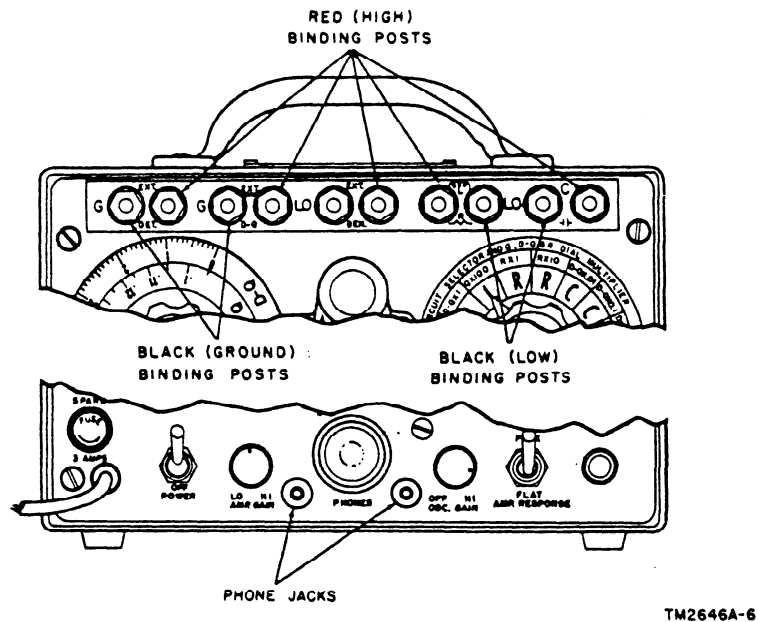
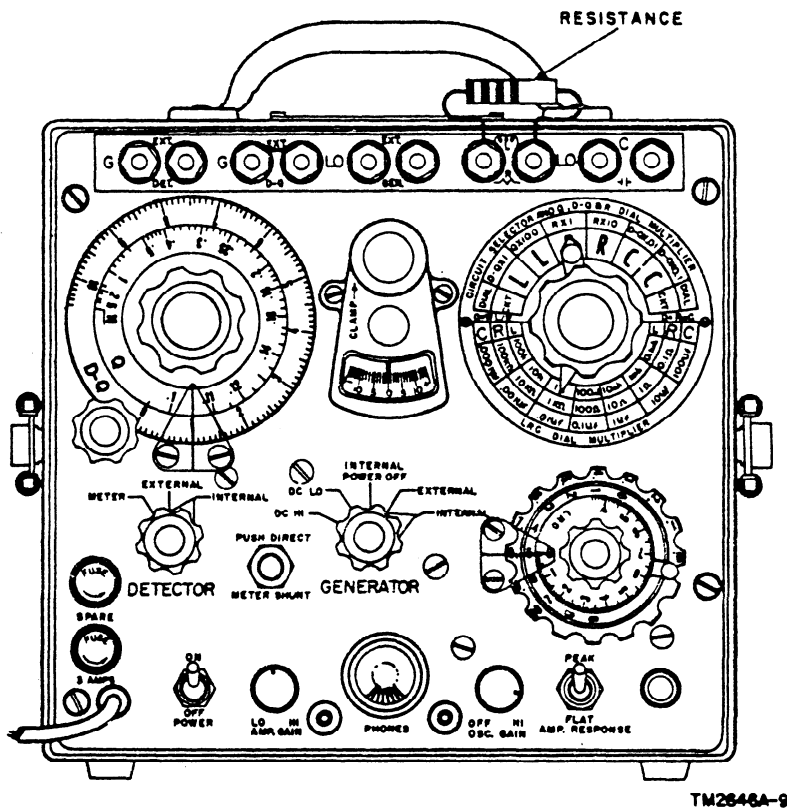

Figure 5. Bridge, showing binding posts and jacks.
Figure 8. Bridge controls settings for measurement of ac resistance.
(fig. 5)
- (1) When the headset is used, turn the DETECTOR switch to the INTERNAL position. Place the headset cord connectors in the PHONES jacks (fig. 5) at the bottom of the front panel. A null is indicated by minimum sound in the headset.
(2) When Voltmeter ME-30A/U is used, turn the DETECTOR switch to the EXTERNAL position and proceed as follows:
*Example:* Settings of controls in figure 8 are for the final balance position of an ac resistance of 8,501 ohms. Observe and interpret the control readings as follows: